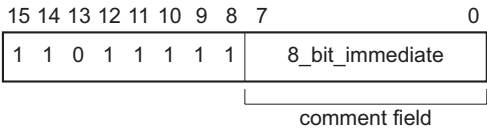

Figure 6-1 Thumb SWI instruction
- The instruction itself is 16-bit, and so requires a halfword load (see Figure 6-1).